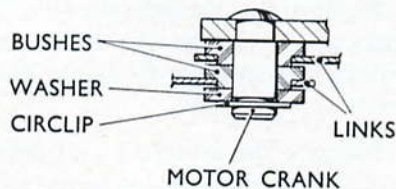

Fig. U.5. Details of link attachment to motor and pivot cranks
2. When reassembling the links, note the location of the washers and arrangement of the bushes shown in Fig. U.5.